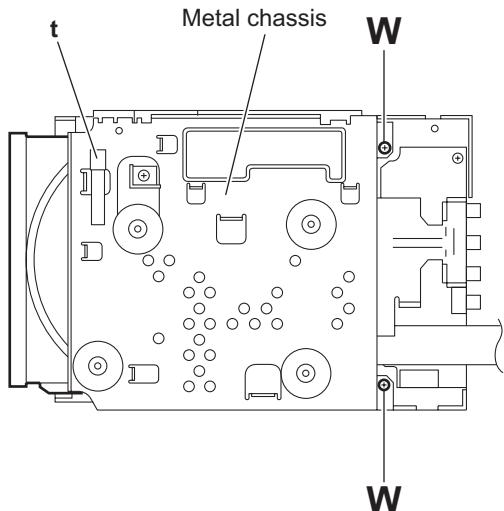

Fig.26
- (2) From the top side of the main body, remove the two screws **W** and take out the metal chassis. (See Fig.26.)